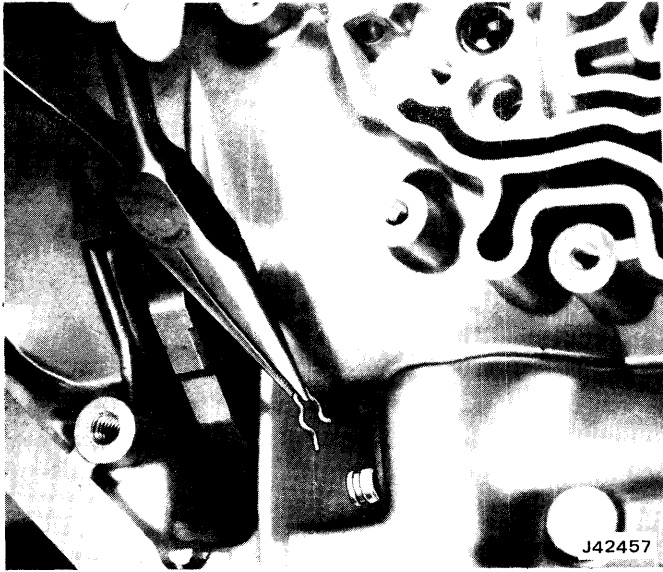

Fig. 7-27 Removing—Installing Parking Pawl Shaft Retainer Spring
- (7) Remove retainer spring from parking pawl shaft (fig. 7-27).